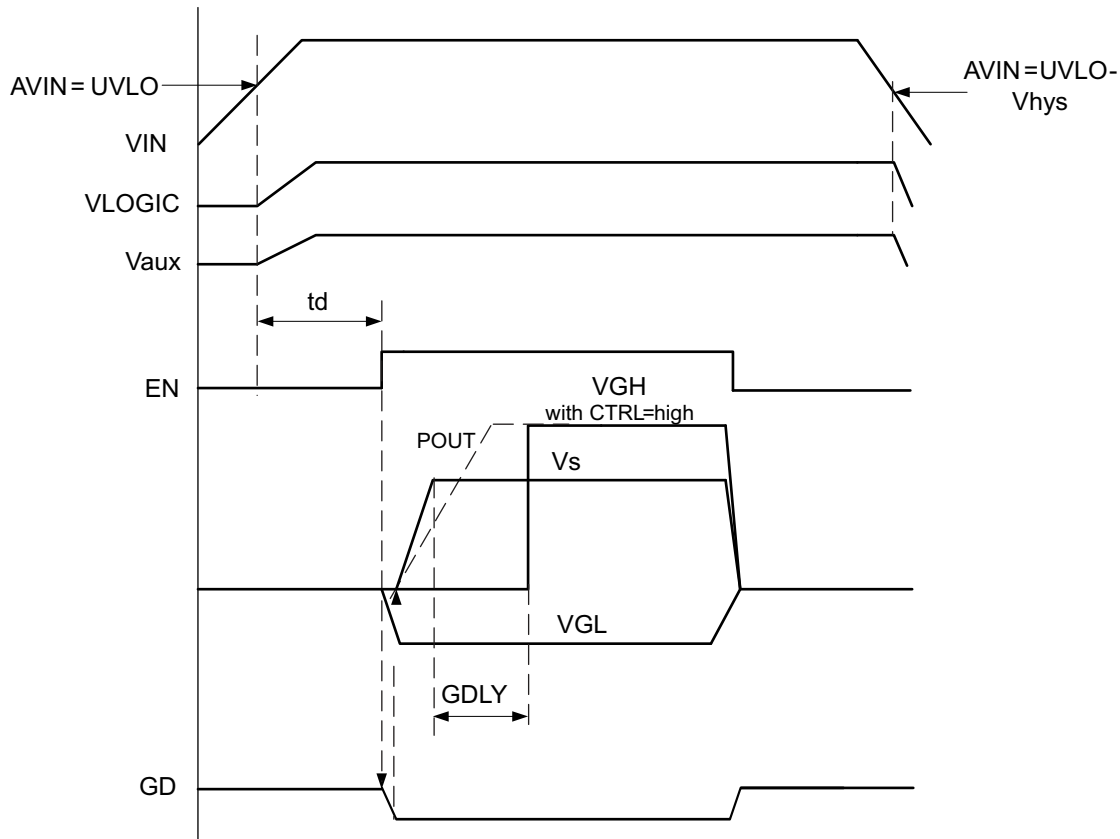

Figure 23. Power Up Sequencing
The device has an adjustable start-up sequencing to provide correct sequencing as required by LCD. When the input voltage exceeds the undervoltage lockout threshold, then the step-down converter and LDO controller start-up at the same time. As the enable signal (EN) goes high, the negative charge pump starts up followed by the boost converter V_s starting at the same time as the positive charge pump. See the typical curves shown in Figure 18, Figure 19, and Figure 23.
If no logic control signal is available, it is also possible to connect a capacitor to this pin to set the delay time t_d as shown in Figure 23 and Figure 19.